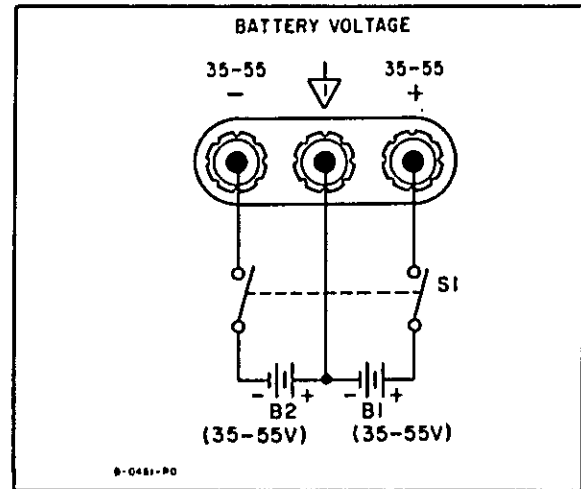

Figure 3-2. External Battery Connection.
b. If batteries are used, connect two 35 to 55 volt batteries as shown in Figure 3-2. The line ON switch is not in the circuit when batteries are used, therefore, an external DPST switch should be used to provide a means for disconnecting the batteries when the instrument is not in use.